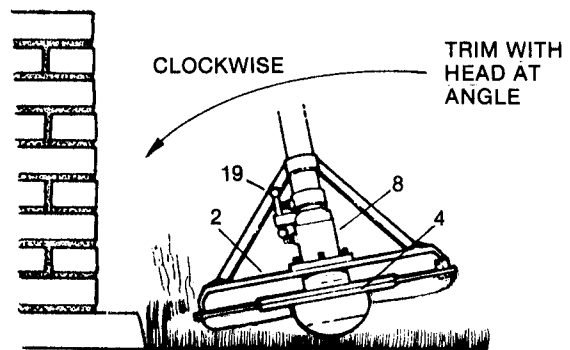

FIG. 6 - TRIMMING OPERATION
**ADJUSTING FOR TRIMMING**- Loosen "T"-BOLT (19), rotate FIXED LINE HEAD (4) CLOCKWISE to desired angle as shown in FIG. 6 - retighten "T"-BOLT. (locate pin (Y) in LEFT hole in MAIN FRAME (13) top).